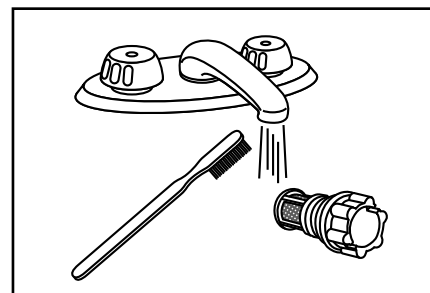

Figure 12. Clean the water filter with a brush.
9. **Clean the filter.** With a small brush, clean the water filter of any debris which may have accumulated. (See Figure 12). When the filter is clean, reinstall it.